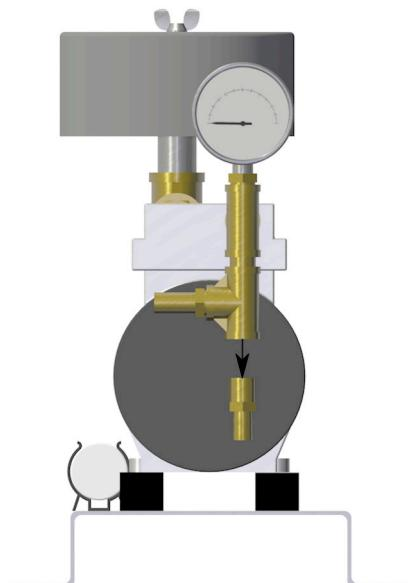

Figure 12: Step 1 Removal of hose barb
- Step 1:** Remove the hose barb from the air unit, if supplied with one. (See *Figure 12*)